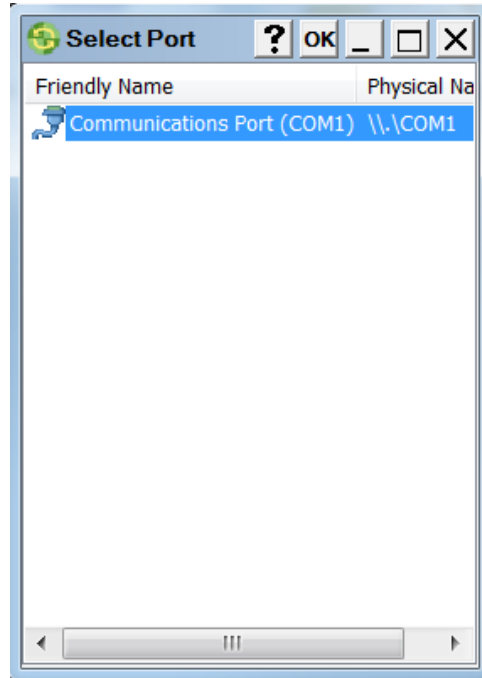

Figure 19: TRU – Select Port Screen
7. Choose a port from the **Select Port** screen, and click **OK** (Figure 19). The **Connection Parameters** screen appears.